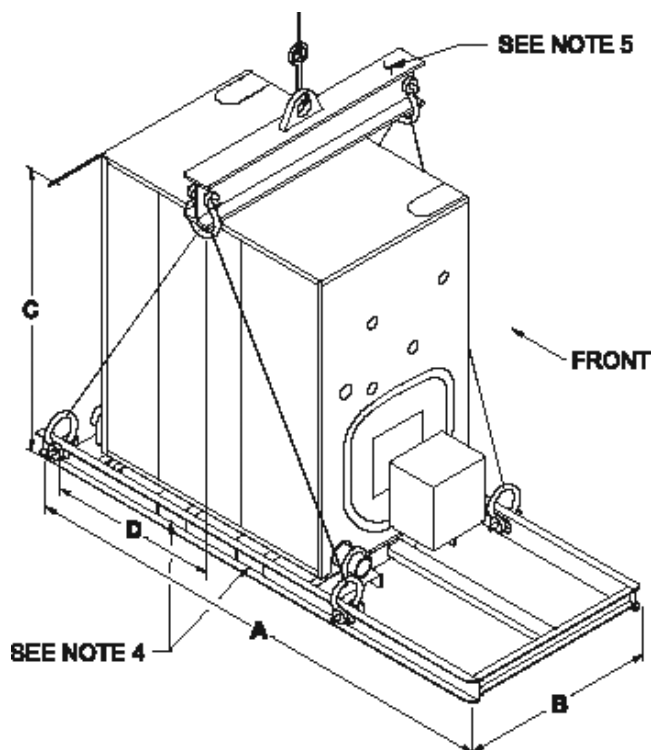

Figure 30: Shipping Information
- The packaged boiler comes on its own shipping skid (see Figure 30) and the assembled block is hydrostatically tested at the factory. Once the boiler is in its final position, perform another hydrostatic test at 1½ times the working pressure of the boiler. The shipping skid can be used as a housekeeping pad unless local codes say otherwise. All controls are pre-wired down to the burner. If burner is equipped with a lead lag panel, lead lag controls will be shipped loose for header mounting. The power can be supplied to the burner if equipped with a control panel. If burner has no panel, the power is supplied to the J-box on the front jacket.